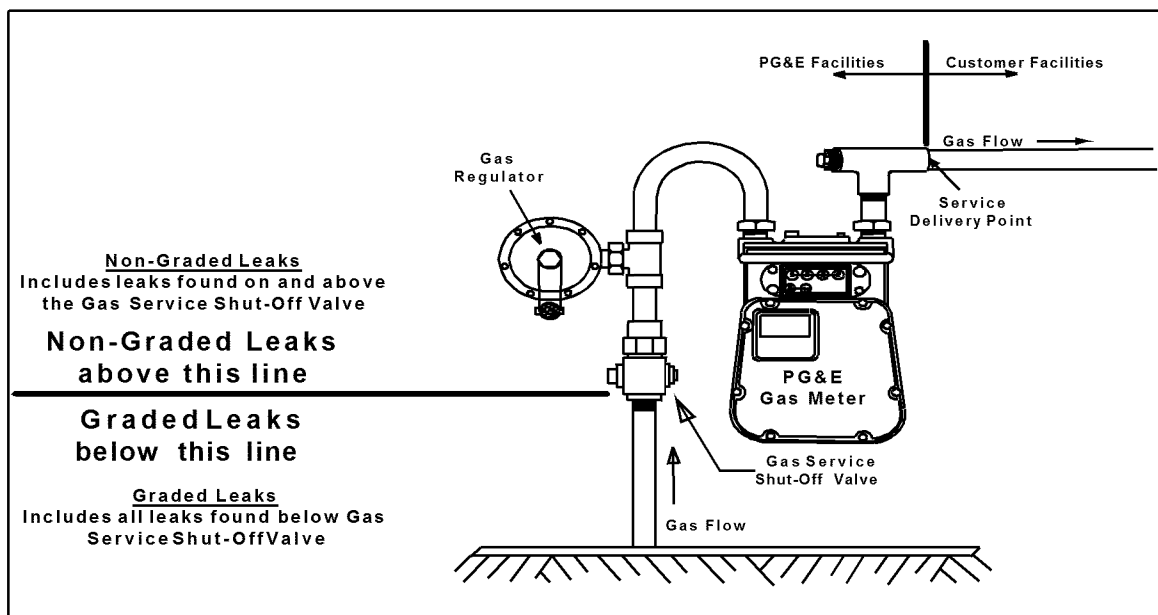

Figure 1. Graded and Non-Graded Leak Locations
- 1.4 This procedure does not apply to a non-hazardous release of gas at or downstream of the aboveground inlet gas service valve recorded in Customer Care & Billing (CC&B) processes. See Figure 1 below.